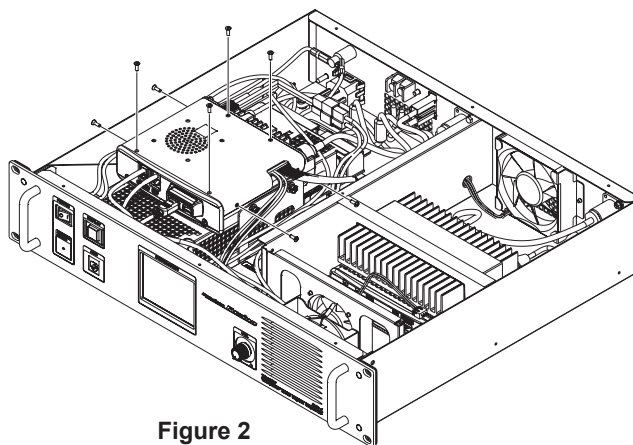

Figure 2
4. Referring to Figure 2, remove the 2 screws from each side and 4 screws from the top cover of the RX-Unit, then remove the top cover.